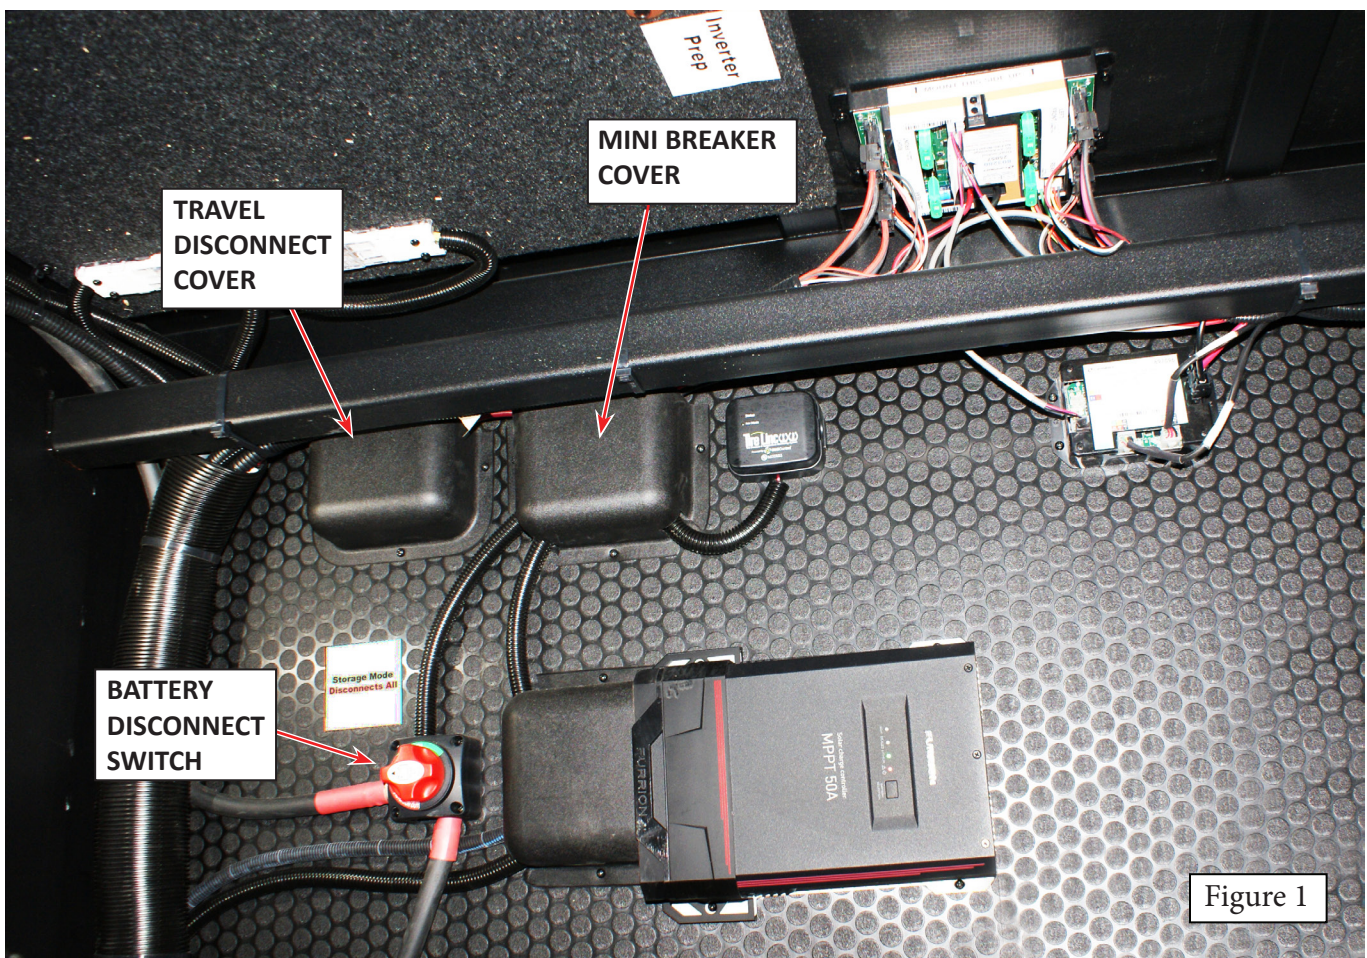

Figure 1
2. Make sure Battery Disconnect (Figure 1) is turned off and the RV is unplugged from shore power .